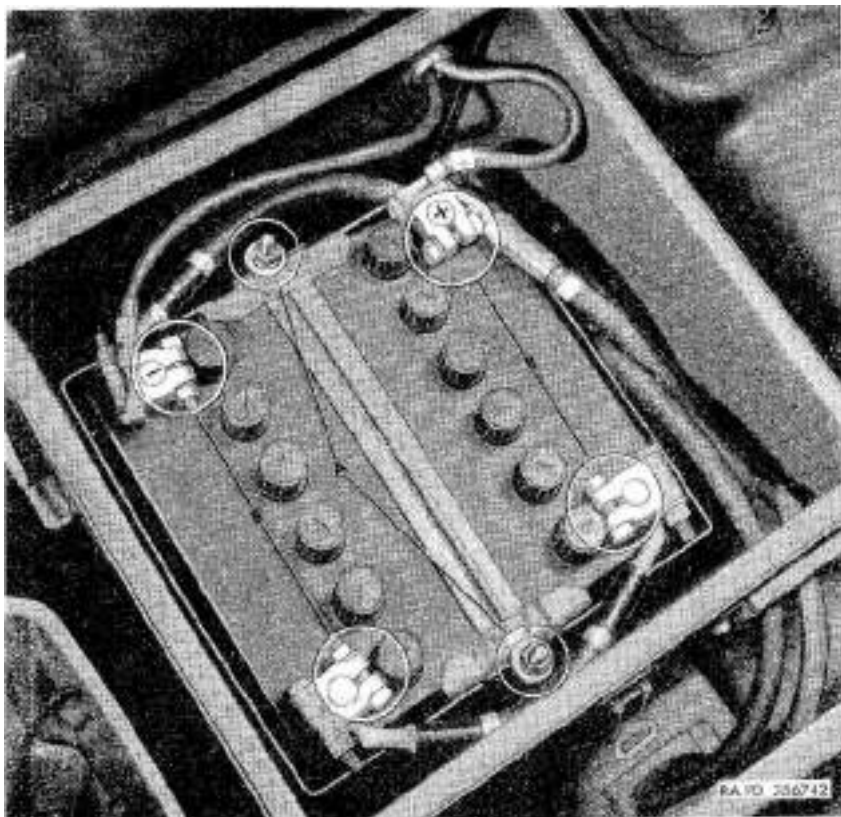

Figure 9. Battery disconnect points.
b. Remove Batteries (All Trucks and Ambulance M43 After Serial No. 80025984) (fig. 9). Disconnect the clamp-type battery terminals (B) and push cables aside to prevent interference when batteries are removed. Remove nuts and washers from battery hold-down cover bolts (A). Remove hold-down cover and batteries.
c. Remove Batteries (Ambulance M43 Through Serial No. 80025984) (fig. 9). Disconnect battery cable assemblies from clamp-type terminals, but do not disturb clamp-type terminals on battery posts. Refer to paragraph 43a for balance of removal procedure.